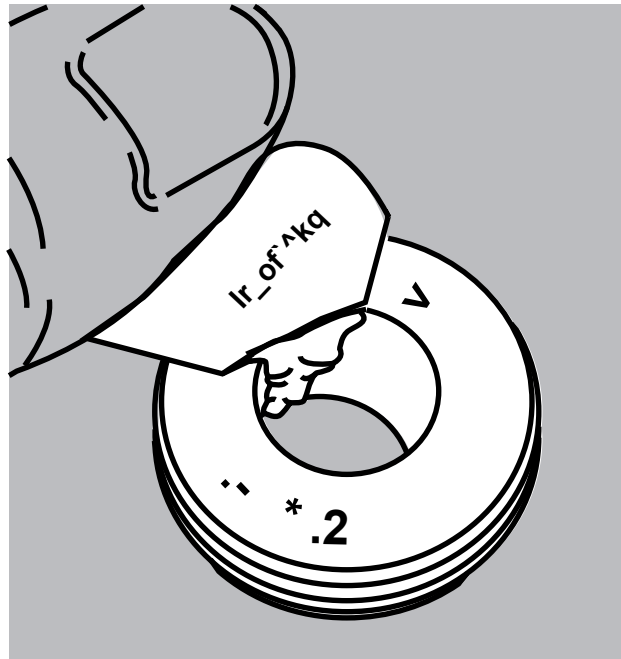

Figure 7
7. From the packet provided apply a thin film of lubricant to the **inside** surfaces of the selected grommets. (Figure 7)